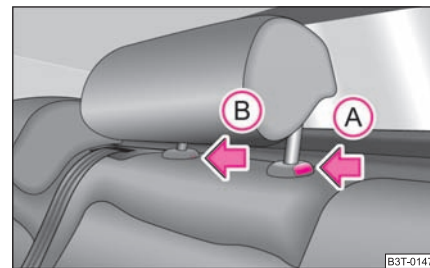

Fig. 67 Rear seats: middle head restraint
- Press the locking button in the direction of arrow **(A)** ⇒ page 75, fig. 67, press simultaneously the locking button into the opening **(B)** using a flat screwdriver with a width of maximum 5 mm and pull out the head restraint.